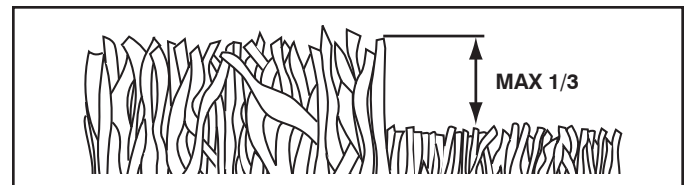

FIG. 12
- For best results, adjust the lawn mower cutting height so that the lawn mower cuts off only the top one-third of the grass blades (See Fig. 12). If the lawn is overgrown it will be necessary to raise the height of cut to reduce pushing effort and to keep from overloading the engine and leaving clumps of mulched grass. For extremely heavy mulching, reduce your width of cut by overlapping previously cut path and mow slowly.